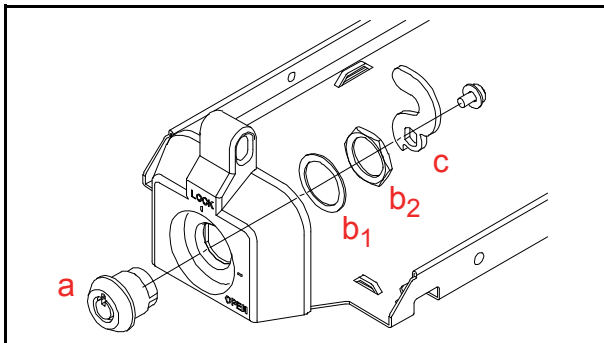

Figure 10 Metal Lock Installation 1
1. Place the Cylinder (Figure 10 a) from the front side of the lock installation hole.
2. Install the Cylinder attachments (Figure 10 b₁ & b₂) and the Door Lock Tang (Figure 10 c) from the inside of the lock installation hole while confirming that the Cylinder direction is correct.